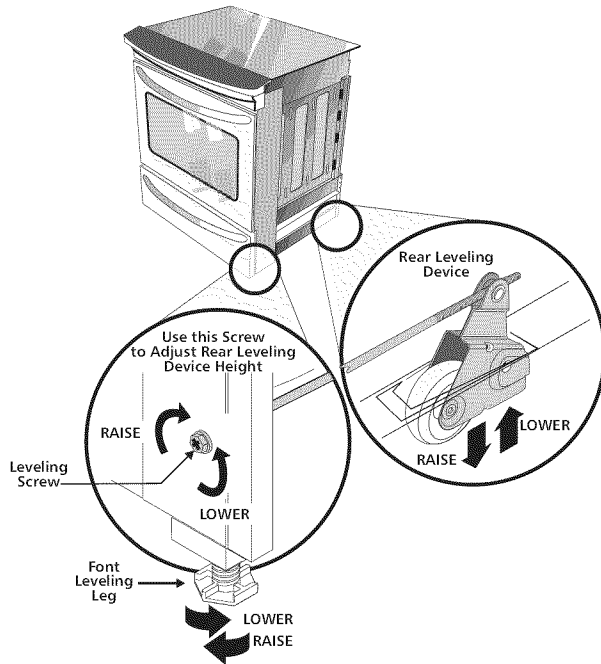

Figure 8
2. Adjust the appliance legs as follows until the underside of the cooktop surface is sitting level on the countertop (Figure 8).